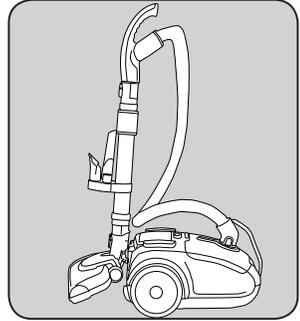

Fig. 1
1. The tab on the back of the wand conveniently stores onto the back of the vacuum (Fig. 1).